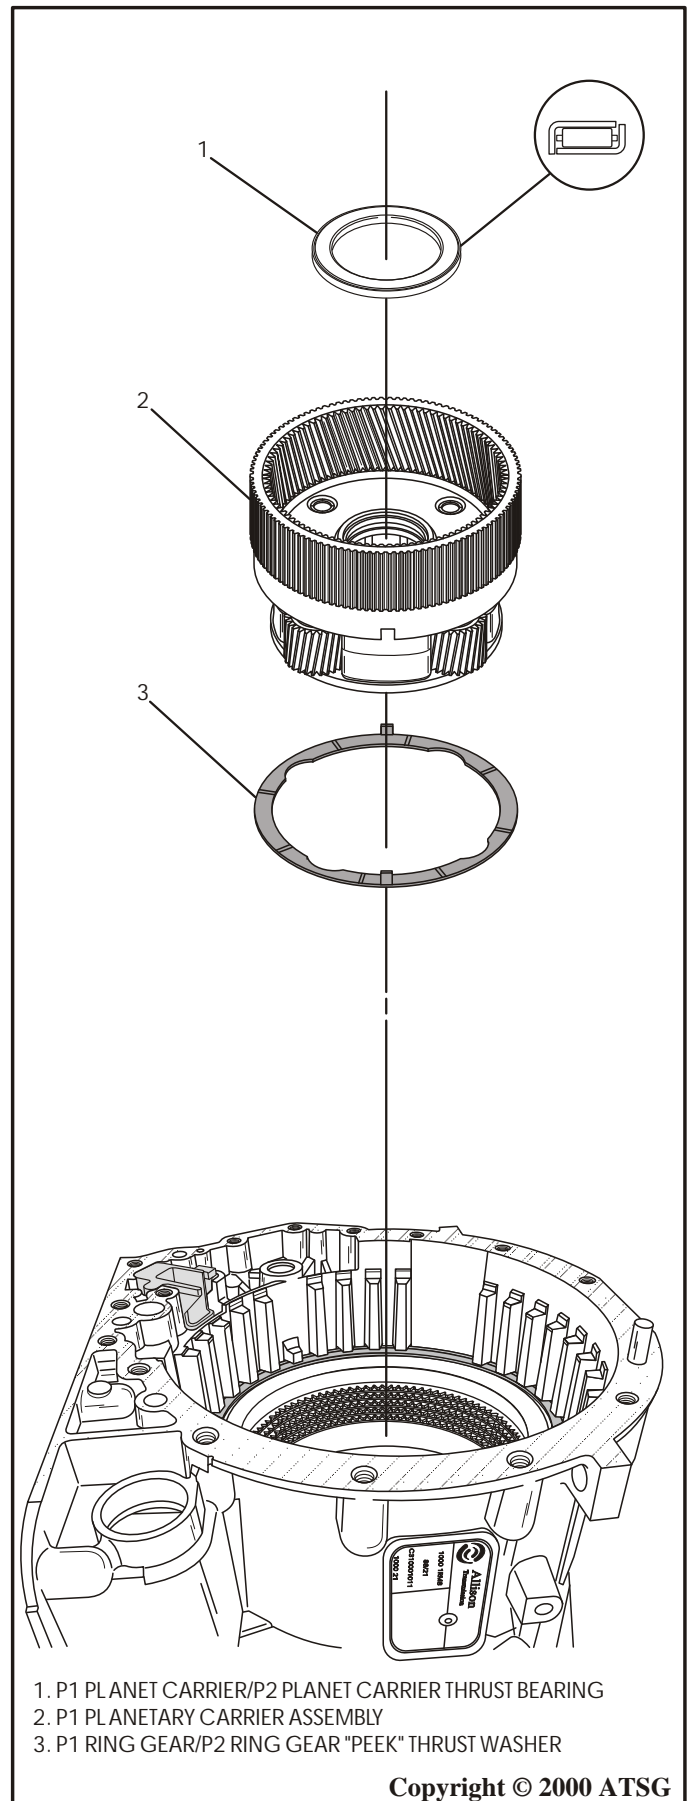

Figure 65
46. Remove the P1 planetary carrier assembly by lifting up with a slight twisting motion. Refer to Figure 65.
Note: The P1 planetary carrier/P2 planetary carrier thrust bearing, and the P2 ring gear to P1 ring gear thrust washer will be removed with the carrier assembly (See Figure 65).